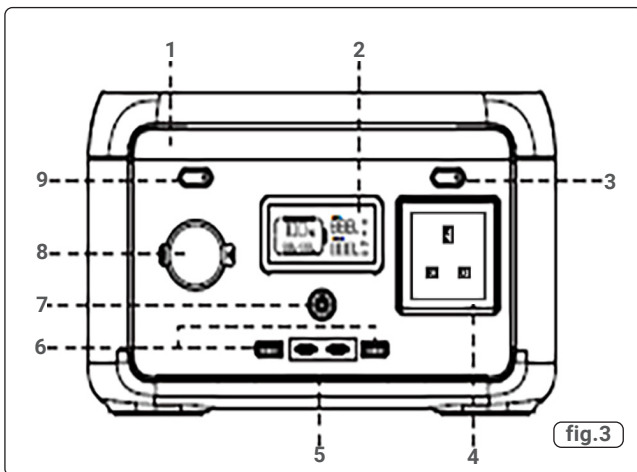

Figure 3 Key
## Operation (fig.3)
#### AC OUTPUT (fig.3)
#### DC OUTPUT (fig.3)
**BATTERY CHARGING PROCESS (fig.3)**